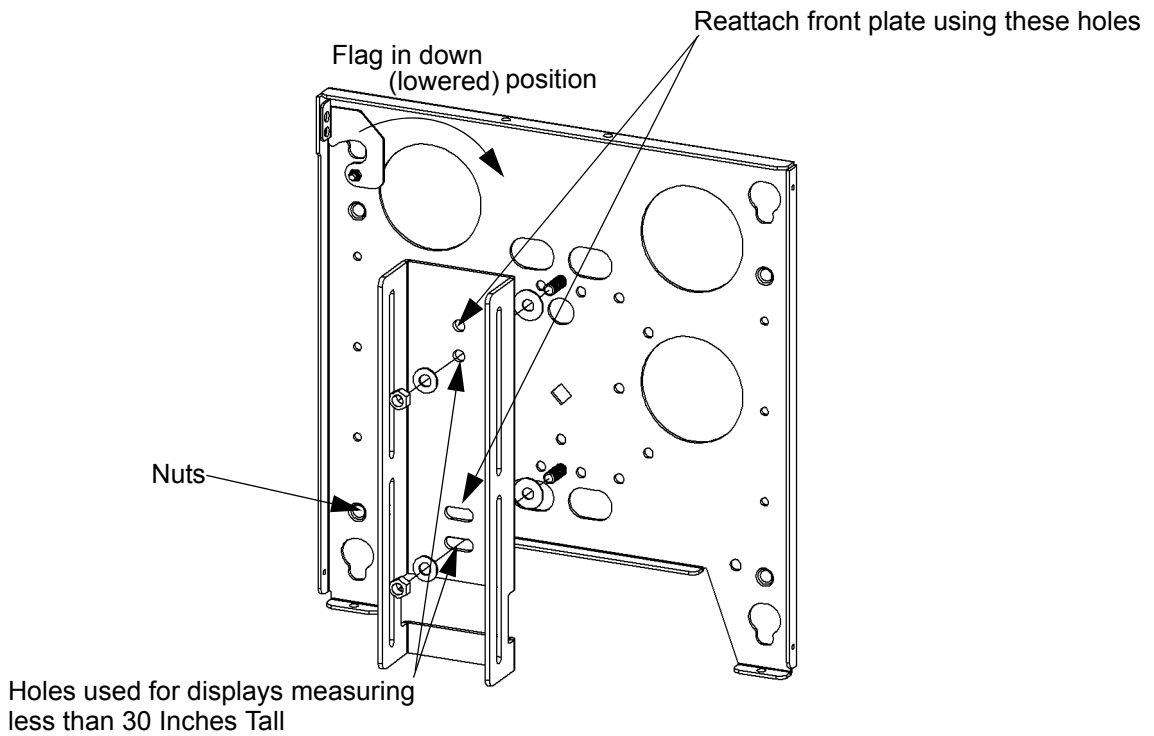

Figure 9. For displays Taller Than 30 Inches
3. Install the front plate in the upper mounting holes of slide and secure using the two nuts removed in the previous step (see Figure 9).
1. Make sure the latching flag of the stand is in the open (lowered) position (see Figure 9).